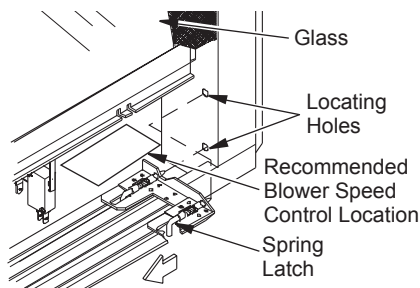
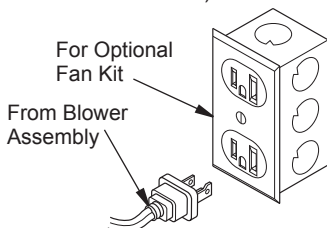

Figure 36 - Removing Louver
Figure 37 - Connecting Blower Accessory to Power Supply
1. To remove louvers, simultaneously pull both top end spring latches towards center of appliance until they are disengaged from locating holes. Repeat for bottom spring latches and pull louvers outward. Reverse procedure to install louvers back onto appliance (see Figure 36).
An outlet box with two receptacles has been supplied for your convenience and is located on the lower right side of appliance (see Figure 37, page 23). The variable speed controller is mounted on a magnetic base and may be positioned anywhere within an accessible distance behind louvered opening (see Figure 36).